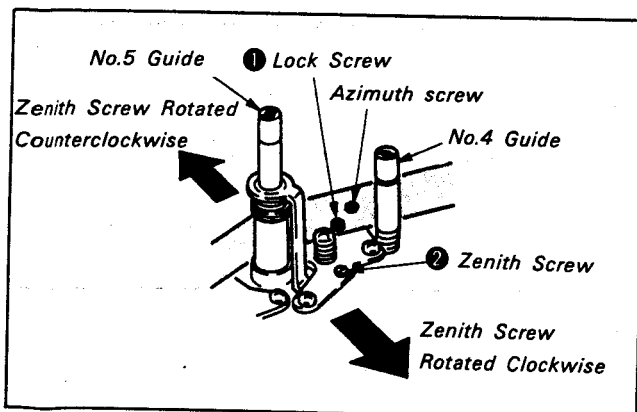

Fig. 4-11
Rotate No.4 guide counterclockwise and No.5 guide clockwise in order to make the tape running on the exit side free. (Fig. 4-11)
- i) Rotate the lock screw ① counterclockwise to loosen.
- ii) Slowly rotate the zenith screw ② 45° at a time and wait until the RF waveform varies.
- iii) Rotate the lock screw ① clockwise to tighten. (Fig. 4-11)